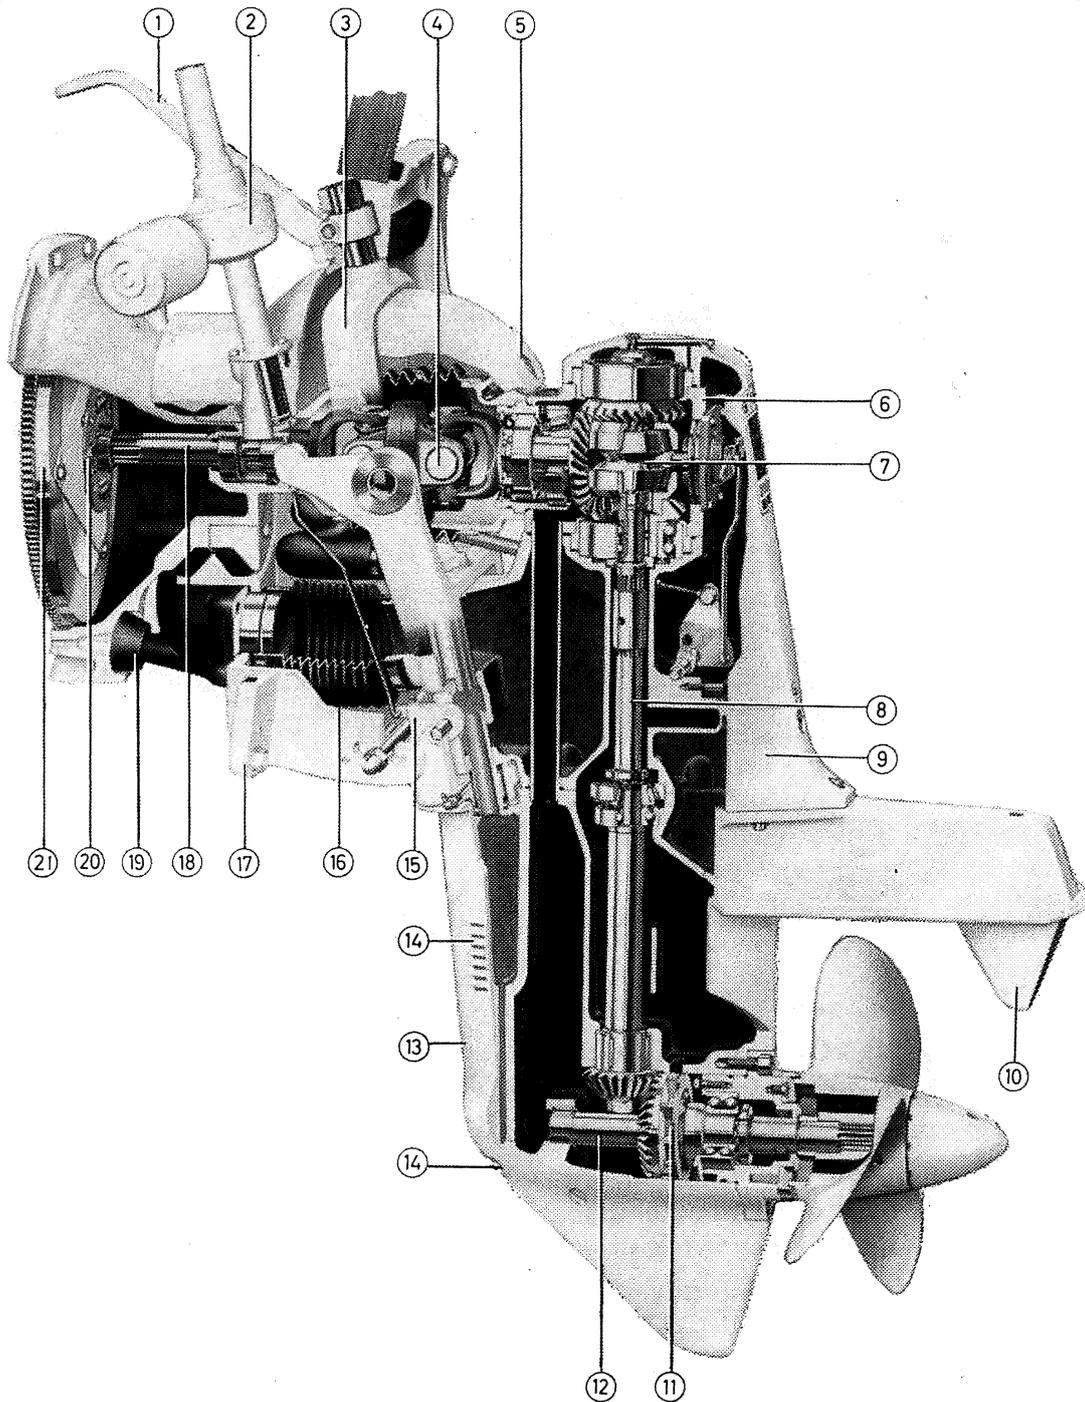
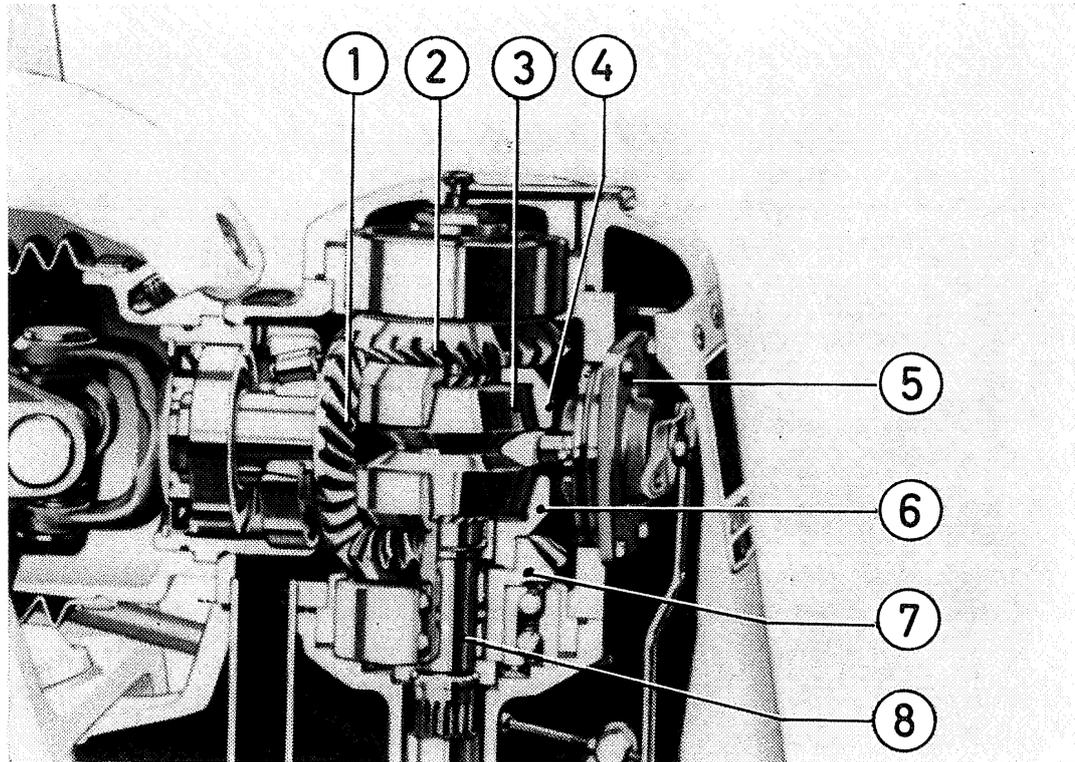

Fig. 22. Cross-section of the outboard drive
Fig. 23. Upper gear housing
The power from the engine is transmitted to the upper gear housing through the vibration damper (20, Fig. 22), the shaft (18) and the double universal joint (4). From the universal joint the power is transmitted to the input gear (1, Fig. 23) of the reverse gear, which is in constant mesh with the gears (2 and 7). These gears are carried on the shaft (8) so that they can rotate independant of the shaft. Between the gears (2 and 7) there is a cone clutch (7, Fig. 22) which makes possible disengagement and reversal of the direction of rotation of the vertical shaft (8). The lower end of this shaft drives the propeller shaft (12) through taper gears.
The vertical shaft (8, Fig. 23) is provided with a thread between the forward and reverse gear wheels (7 and 2) and on this thread the engaging sleeve (3) can be moved up and down by means of the control mechanism (5).
When running in reverse, the outboard drive is kept in its normal position by means of a retaining pawl (15, Fig. 22).
The steering of the outboard drive is obtained by transmitting the steering wheel movements through a steering arm (1, Fig. 22), which is located inside the transom and attached to the steering fork (3). The steering arm is independent of the tilting of the drive. The lower parts of the fork arms are carried in a steering casing (5) which is, in its turn, bolted to the upper part of the outboard drive. The steering angle of the outboard drive is about  $30^{\circ}$  from the neutral position. Since the direction of the propeller driving force is altered when the drive is turned, this gives the boat excellent steering properties.
In order to facilitate the tilting-up of the drive, this is fitted with an electro-mechanical lift device (2, Fig. 22) which is operated from the driver's seat. The lift device is mounted on the inside of the transom shield and consists of an electric motor which actuates the suspension fork with a push rod via a worm gear. The push rod releases the retaining pawl and pushes the drive into tilted-up position. The electric motor stops automatically when the drive has reached its fully tilted as well as its fully lowered position. When the drive is being tilted up, it is automatically centered independent of the position of the steering wheel. The maximum tilting angle is about  $65^{\circ}$ .
The drive has an oil system which is common to both the upper and the lower gear housing. The oil is circulated to all gears and bearings by means of a circulation pump (11, Fig. 22) fitted on the gear in the lower gear housing. The water which flows past the lower part of the outboard drive cools the oil.